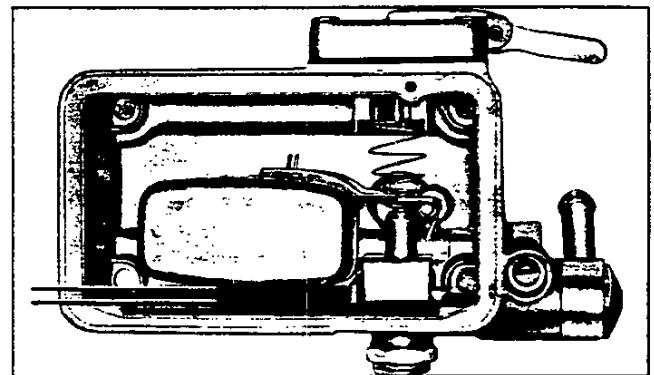

Fig. 15—Preliminary Float Adjustment
4. Make a preliminary float adjustment (fig. 15) by inverting fuel bowl and turning adjustable needle-seat until top of float is parallel with top of fuel bowl.